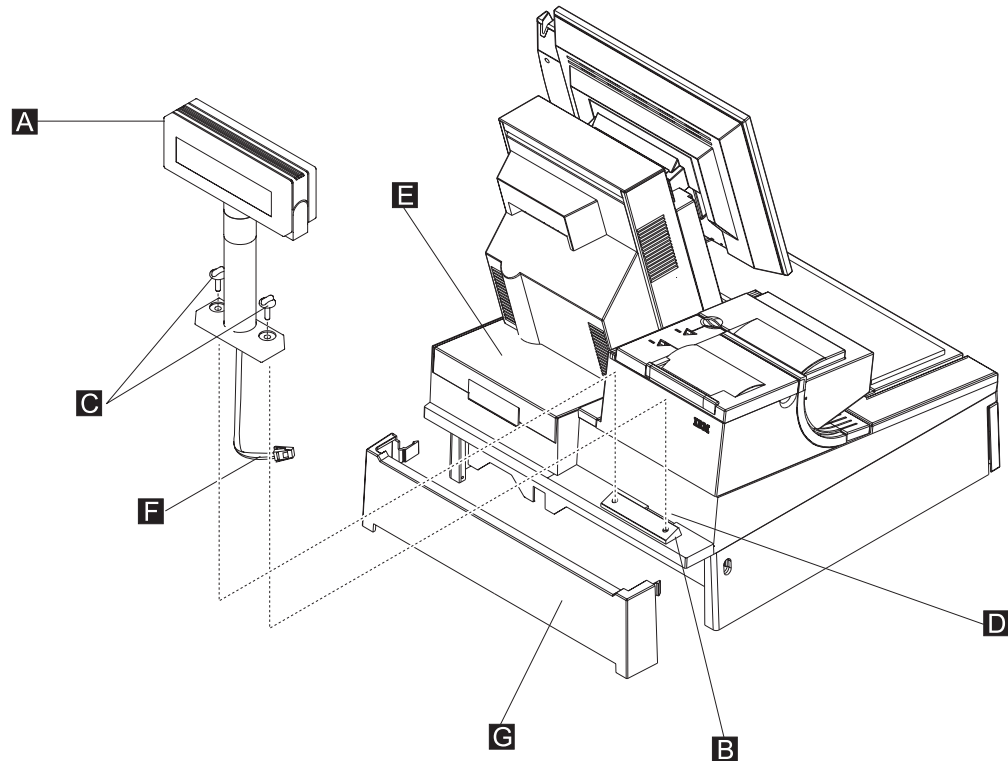

Figure 60. Installing the distributed customer display onto the integration tray
- a. Route the display cable **F** through hole **D**, as shown in Figure 60. You might need to place the display on its side to connect the display cable to the system unit rear connector panel.